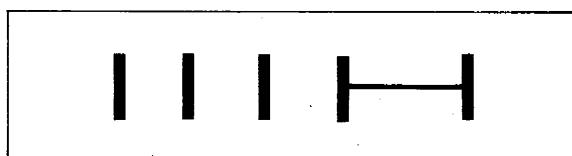

Fig.G2.
- 48) Disconnect the voltmeters, the 500 Ω resistor, the 0.47 μ F capacitor and the Signal Generator, and connect again the terminals on the black insulating block on print board V, as shown in Fig.G2.